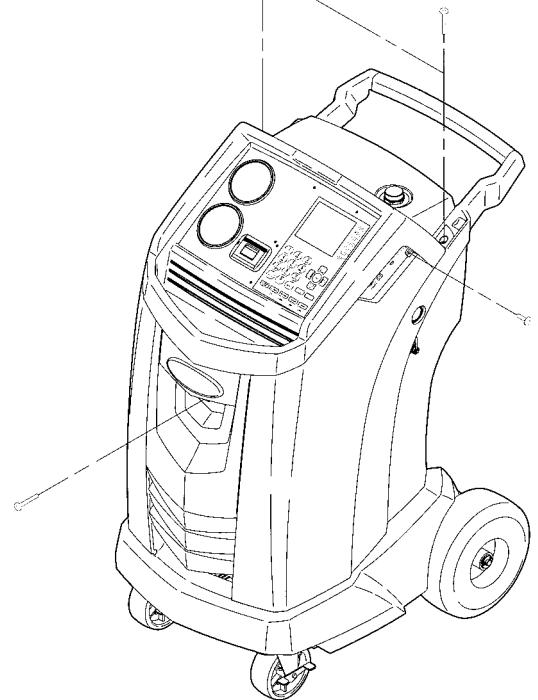

Figure 16
2. Remove the oil bottle, and remove the four screws holding the shroud. See Figure 16. Hang the shroud on the back of the machine.